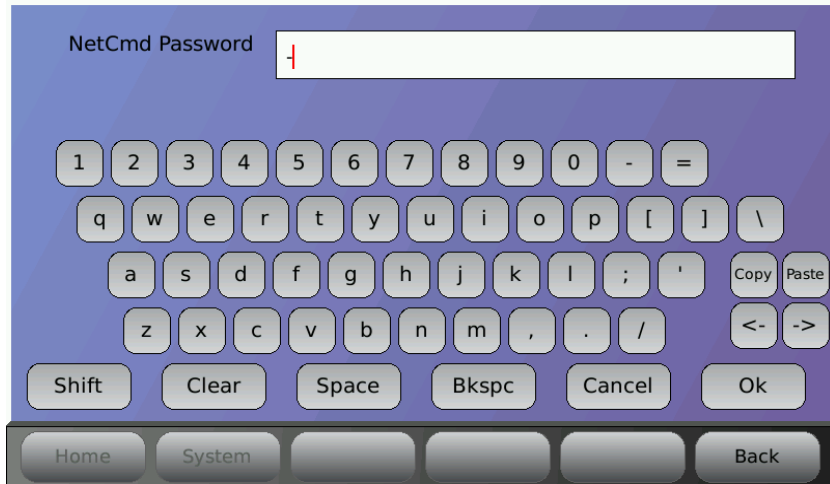

Figure 59. Virtual Keyboard
1. To add or change password, select the NetCmd or Setup Password text box and use the virtual keyboard (Figure 59).